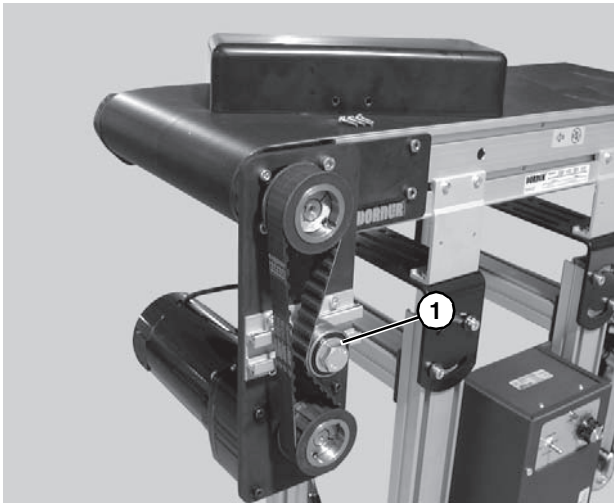

Figure 11
2. Loosen tensioner (**Figure 11, item 1**).